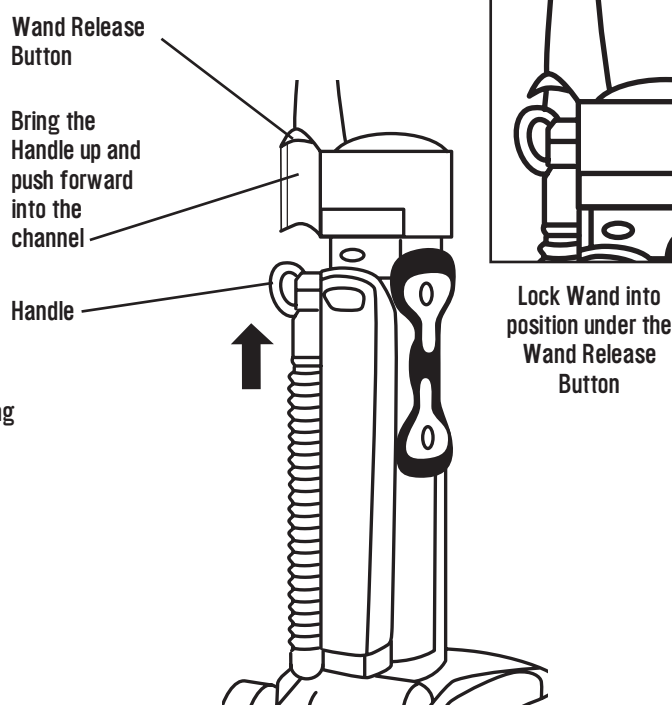

Figure 3b
3. Push forward and upwards on the Handle until it snaps and locks into place in the channel at the back of the Vacuum Cleaner, under the Wand Release Button. (See Figure 3b.)